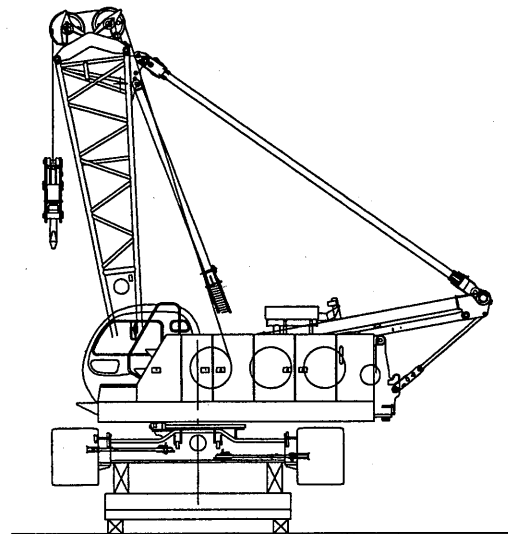

Fig. 11-17
- (3) Carefully swing so that the upper structure is vertical to the crawlers. The front of the machine (operator's cab side) must be directed to the side of crawler which will be removed. (Fig. 11-17)